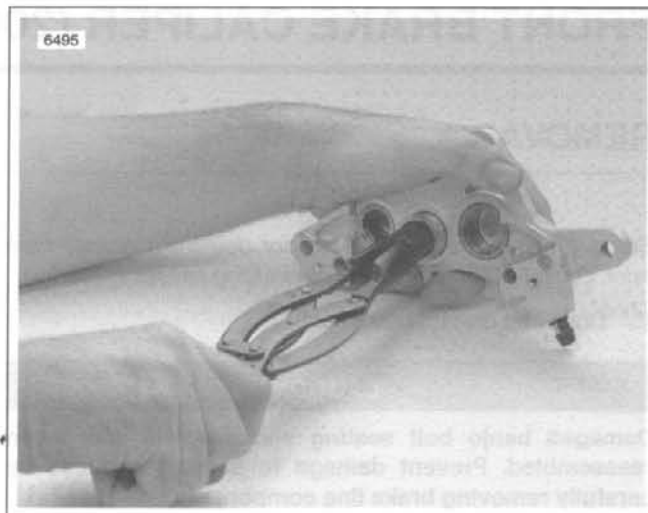

Figure 2-70. Removing Pistons
3. See Figure 2-70. Use BRAKE CALIPER PISTON REMOVER (Part No. B-42887) without adaptor to pull the six pistons from caliper bores.